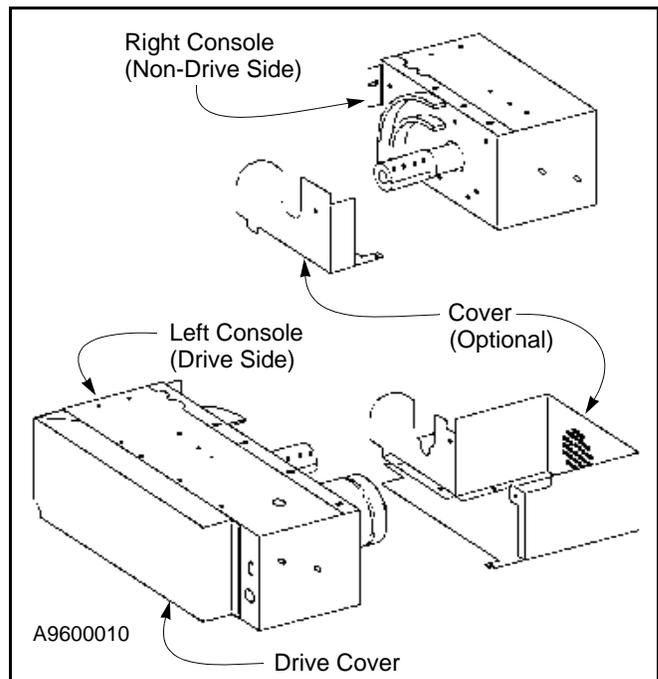

Figure 88
2. Install covers to the console assemblies as required. (See Figure 88.)